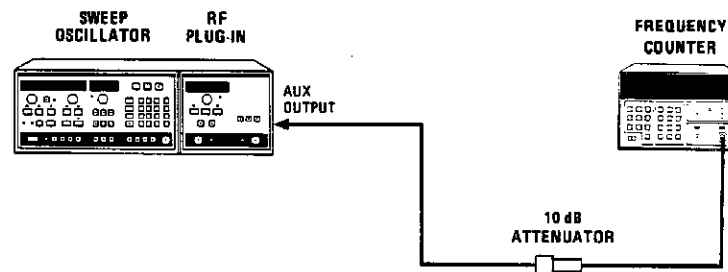

Figure 5-9. Frequency Accuracy Test Setup
1. Connect the equipment as shown in Figure 5-9 with the Frequency Counter connected to the 83592C rear-panel AUX OUTPUT connector through the 10 dB attenuator. Allow the equipment to warm up for one hour.